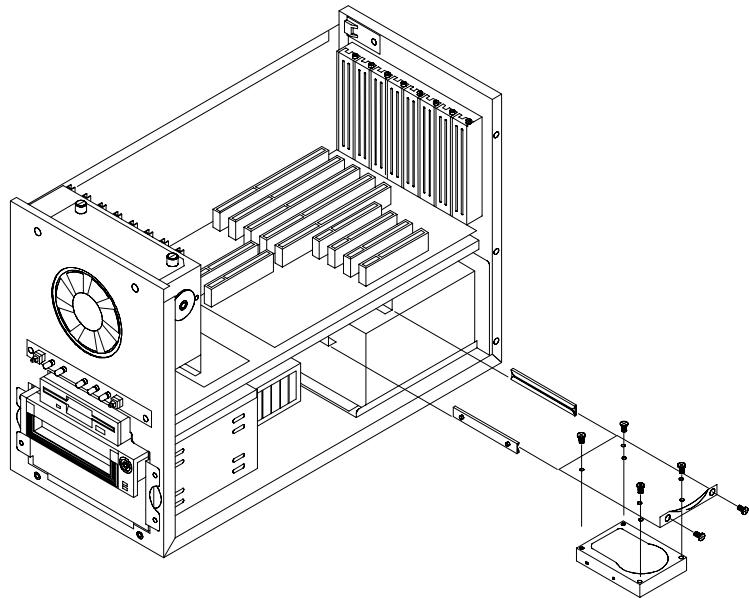

Figure 2-9: Inserting the drives into the drive bay inside the chassis
5. One 3.5" drive can be installed inside the chassis. Remove the HDD bracket from the HDD drawer. Attach the drive to the bracket by fastening the four screws. You can then insert the drive above the power module. See Figure 2-9: